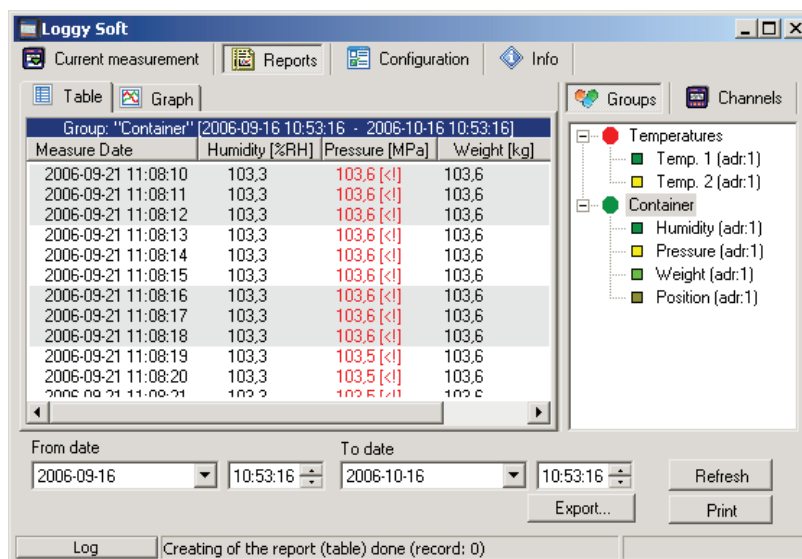

Fig. 3.3. Reports - menu
The **Table** tab (Fig. 3.3) is used for printing information concerning recorded measurements (e.g. temperature, humidity) in the form of a table for one of the groups or a particular measurement channel selected by the user (for more information on groups see 3.3.2 section, at page 104). This tab also enables the export of data to text format files. The exported file is formatted in a way allowing the transfer of data to a calculation sheet.
- click appropriate tab **Groups** or **Channels** (Fig. 3.3),